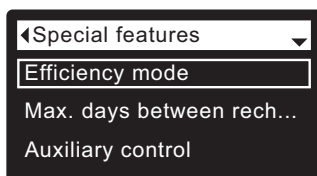

FIG. 85
5. Press the SELECT (O) button to display the Special features menu (See Figure 85).
9. Press the SELECT (O) button. The display will go back to the Special features menu (Figure 85).